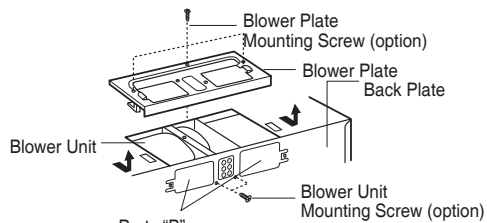

Figure 13
1. Remove one blower unit mounting screw and one or two blower plate screw(s). Remove the blower plate from cabinet. See Figure 13.